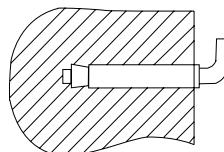
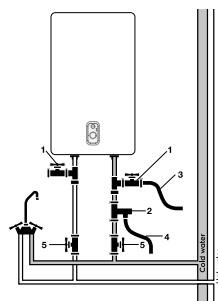

Fig. 4. Mounting anchor for mounting.
Fig. 5
- The pressure vent on the pressure relief valve (item 3 in Fig. 5) install a drain tube and lead it to the sewer in case water is drained and excessive pressure is relieved*. The drain tube connected to the pressure outlet must point downward.
A tee can be provided for the drain with a valve between the valve and the sleeve (item 1, fig. 5).
- Connect the drain hose (item 3 in Fig. 5) to the shutoff valve.
The electric water heater must be installed on a solid vertical surface (wall). The installation of AZR EEC series water heaters is greatly facilitated by the possibility to install them both vertically and horizontally anywhere in your home, in a heated (!) room. It is advisable to install the heater as close as possible to where the hot water is used, because the shorter the length of the pipes, the less heat is lost. As shown in Fig. 5. When installing the heater close to a wall, leave the recommended clearance for maintenance. Do not install the heater on a horizontal surface and up against the floor. After selecting the mounting location, locate the two fastening bolts with hooks (depending on the specifications of the selected product). Make two holes in the wall to the required depth corresponding to the size of the mounting bolts, insert the screws, rotate the hook upwards, tighten the nuts firmly and then install the electric water heater on it (see Fig. 4). If the bathroom is too small to accommodate the water heater, it can be installed in any other room, protected from direct sunlight and rain.
If you want to implement a water supply system for several water points, use the connection method (see Fig. 5).